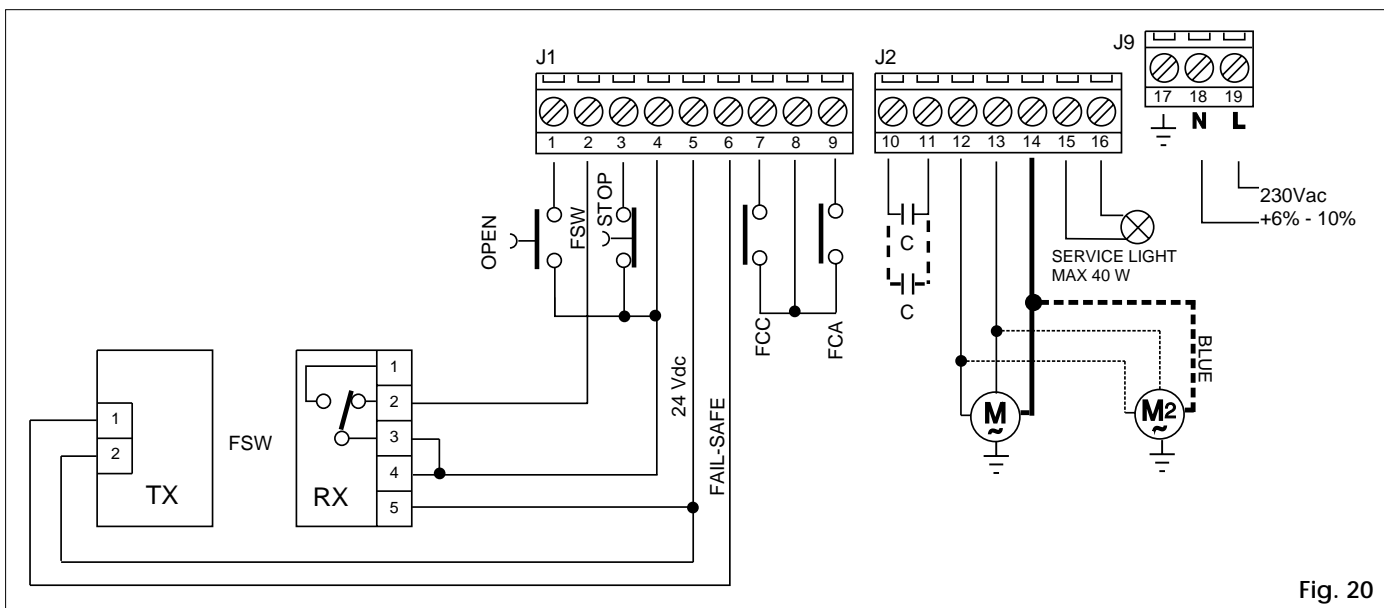

Fig. 20
For garage doors 3.50 to 5 m wide, one 595 I (integrated) operator and one 595 S (slave) operator must be used. The maximum permitted height is 3 m. Install in the same way as for a single motor (fig. 9). After completing mechanical installation make the electrical connections shown in fig. 20.
- 5) Send an OPEN pulse to the input (fig. 20) and check that this makes the door open.